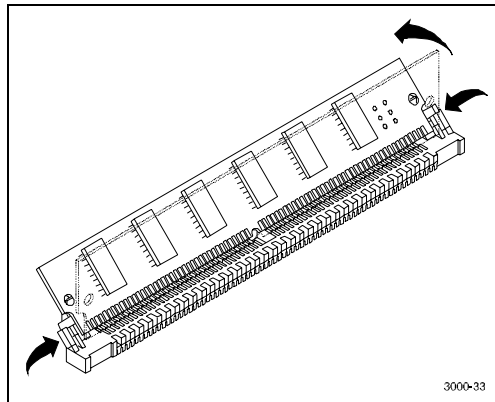

Figure 1-7. Pivot SIMM down to seat
2. Ensure the SIMM is firmly seated and then gently pivot it toward the controller board until it snaps into place as shown in Figure 1-7.